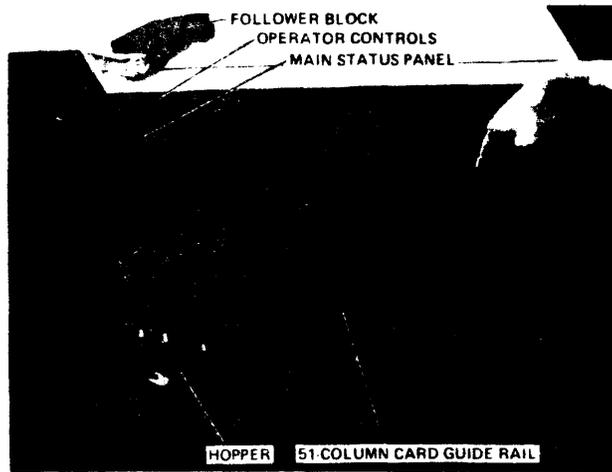
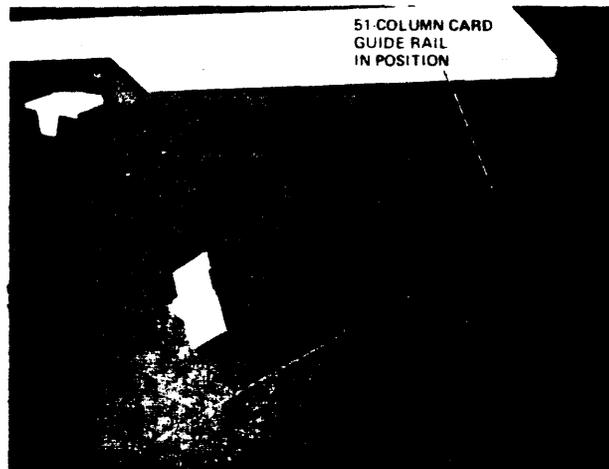

Figure C-7
Figure C-8
1. Remove the follower block (Figure C-7).
2. If 51-column cards are to be read, place the hopper guide rail in position (Figure C-7). This rail just clips into position (Figure C-8) and makes a contact to inform the device electronics that only 51-columns are to be read.